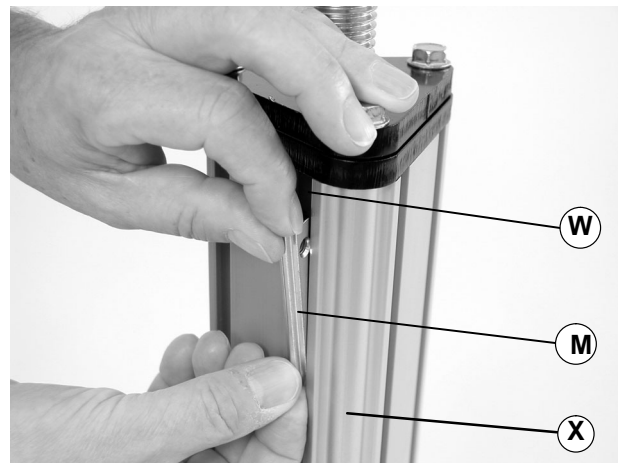

Figure 5
- Roll a 2 hole drop-in t-bar (M of Figure 5) into t-slot (W) of the trileg post (X).